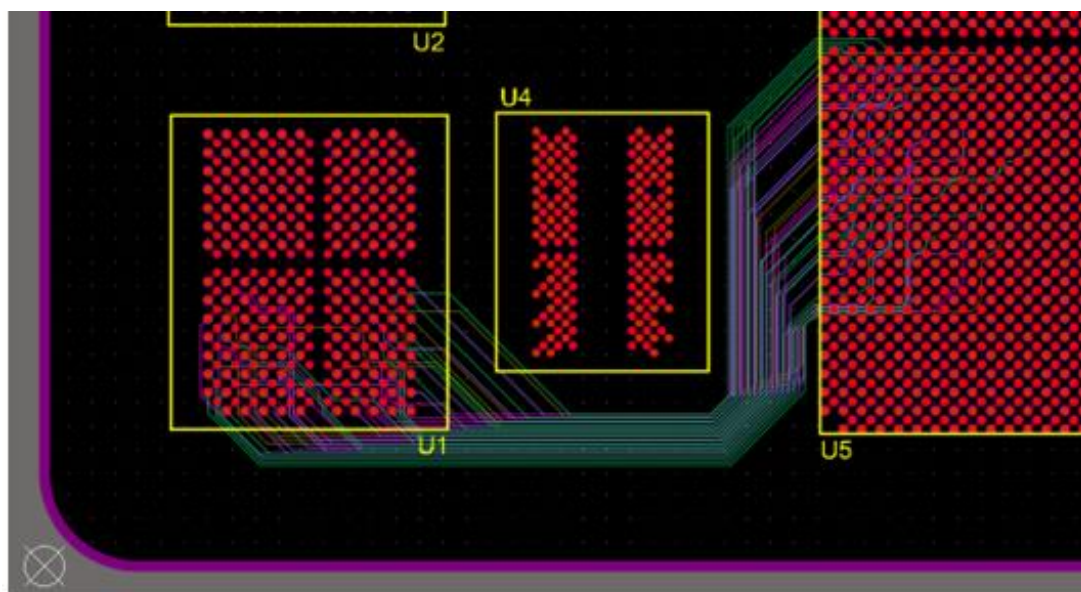

Figure 10. Routing using ActiveRoute Route Guide
29. Next, select the **ActiveRoute (or use Shift+A)** from the *ActiveRoute* panel, the routed PCB should look similar to Figure 10.